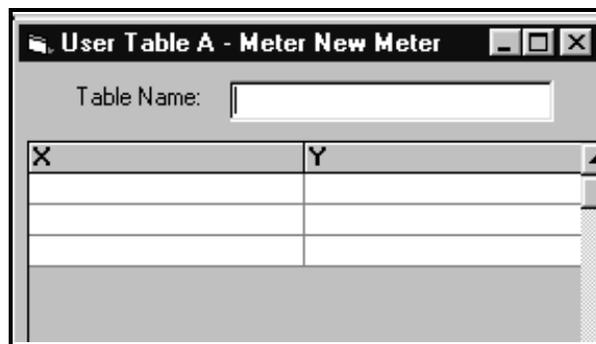

Figure 4-9: User Table Window
2. Click on “*User Tables*,” and then double-click on the desired table. The right side of the screen appears similar to Figure 4-9.